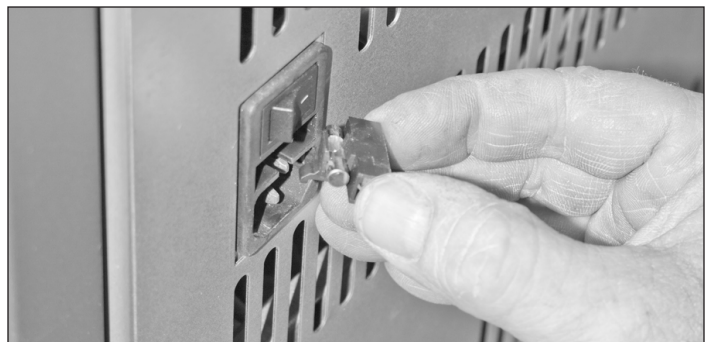

Figure 20b: Main power switch
**NOTE: IF FOR SOME REASON THE STOVE DOES NOT APPEAR TO BE POWERING ON, THERE IS A FUSE LOCATED JUST BELOW THE POWER SWITCH THAT CAN BE CHECKED. SEE FIGURE 20B. NOTE THAT THERE IS A SPARE FUSE LOCATED IN THE FUSE HOLDER.**